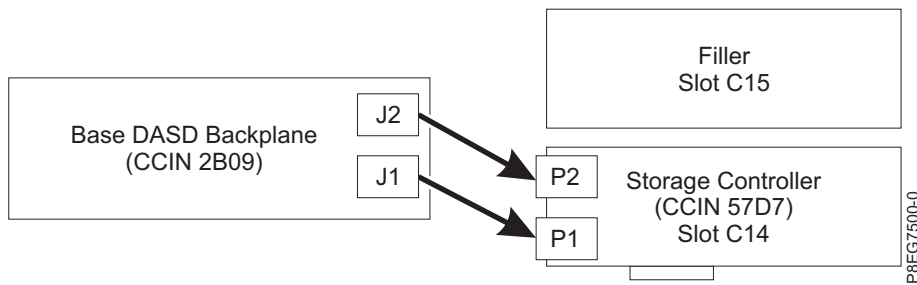

Figure 5. Reconnecting the SAS cable in a base storage configuration
- If you have one PCIe3 x8 SAS RAID internal adapter (CCIN 57D7) in slot P1-C14 (base storage feature), one SAS cable connects the lower disk drive backplane connector (J1) to the P1 connector on the adapter. The second SAS cable connects the upper disk drive backplane connector (J2) to the P2 connector on the same adapter. See Figure 5.